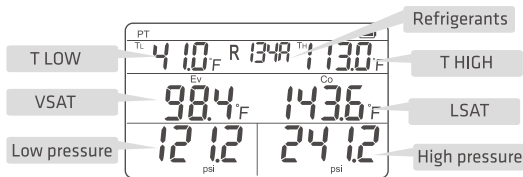

FIG.1 Diagram of Saturation Temperature Sub Mode
2. Press the power button to turn on, and enter the main interface [FIG.1] .
1. Read the data after refrigerant setting is done, the interface [FIG.1] displays the measured pressure, temperature, saturation temperature and evaporation temperature at high and low pressure sides.